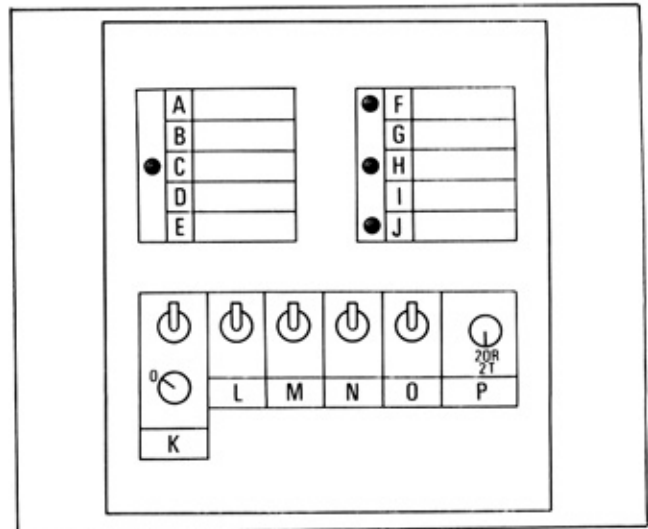
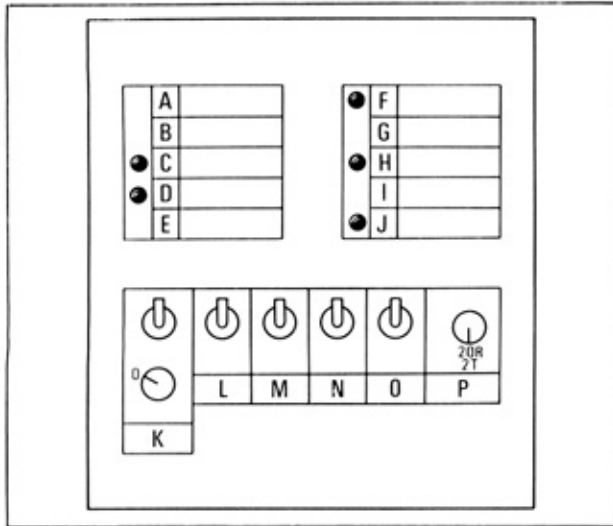

Fig. 18-125 20R Engine w/o CCo
Fig. 18-126 20R Engine W/CCo
- (1) At the condition shown in Fig. 18-125 and Fig. 18-126, and with the engine idling, the choke opener link should be pulled in.
- (2) Tilt checker switch "M" or "N" to the "SIMULATION" side. The choke opener link should then return. If defective, check the diaphragm and link. If these are in normal condition, replace the VSV.